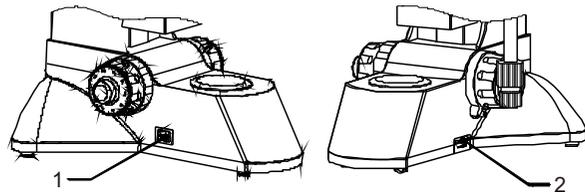

Fig.2
1. Turn on the toggle switch 1 on the right of the main body frame (turn it to the “-” position), so that the transmitted halogen bulb is illuminated. Turn the brightness control knob 2 to adjust the brightness of the bulb, and make the brightness of the field of view suitable for visual inspection. As shown in Fig. 2.